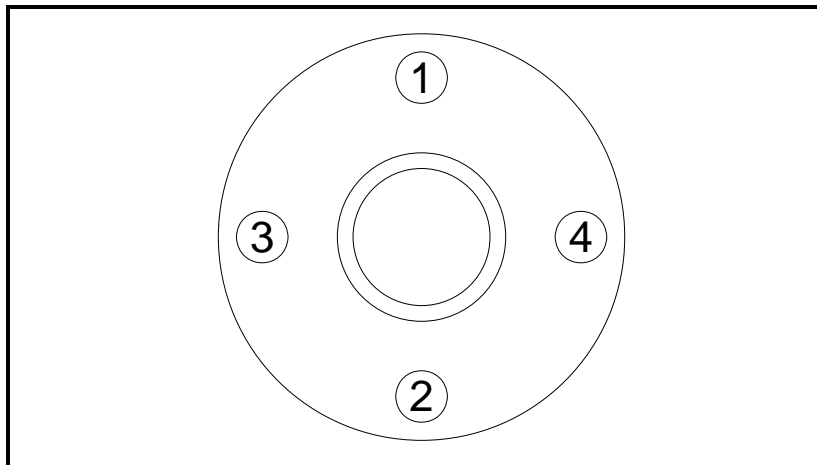

Figure 6-4: Holder, Top View - Order of Tightening Bolts
6. Using a torque wrench, tighten the four upper bolts to 15 ft-lb in the order shown in Figure 6-4 below. Then to 30 ft-lb in the same order shown in Figure 6-4 below.